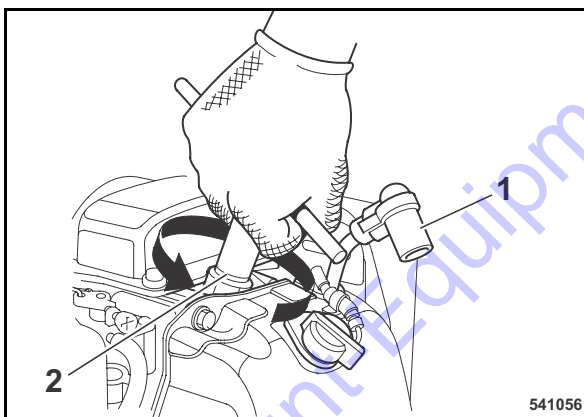

Fig. 38
- Pull off the spark plug socket (1) (Fig. 38).